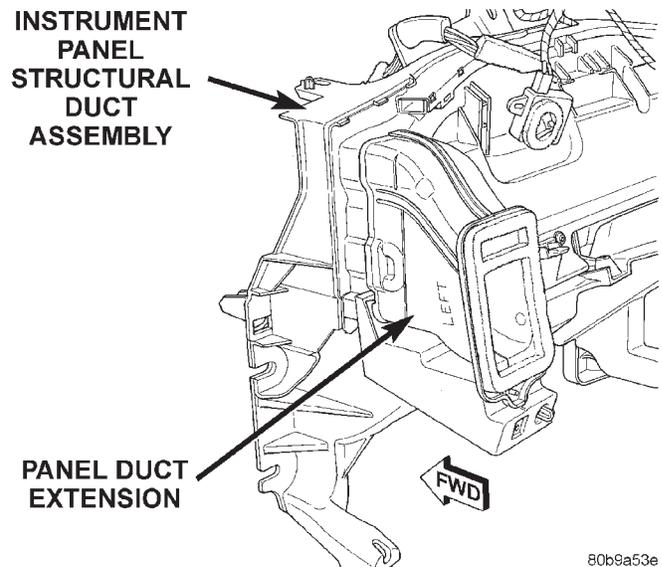

Fig. 38 Instrument Panel Duct Extension
- (3) Remove the duct extension(s) from the instrument panel (Fig. 38).